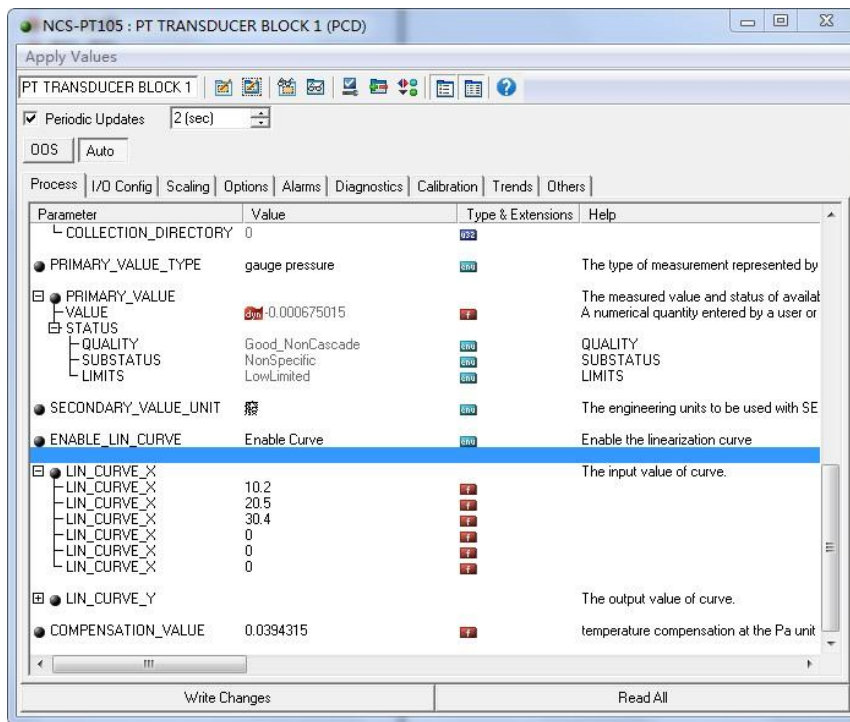

Figure 6.5 Configuration of the parameter LIN\_CURVE\_X
- 2) Enter the standard pressure through the resor and open the corresponding transformation block on the configuration software, read the value of parameter PRIMARY\_VALUE and write the value to the LIN\_CURVE\_X array. For example, write the 10.2,20.5,30.4 read in the LIN\_CURVE\_X array, as shown in Figure 6.5. Finish this calibration work.